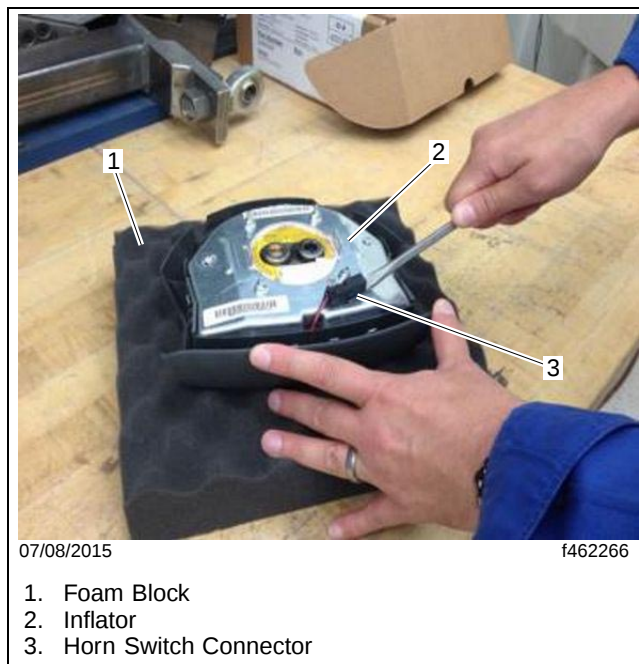

Fig. 3, Unclipping the Horn Switch Connector
8. Remove the driver air bag from the steering wheel. **Fig. 3.**